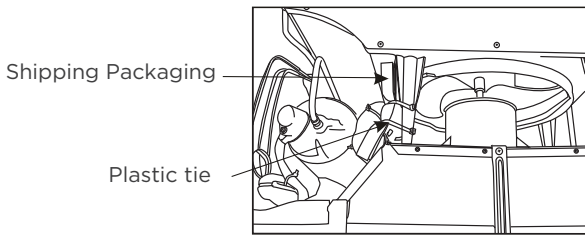

Fig.7
- Your unit may come with internal packaging. This packaging must be removed prior to installing the air conditioner back into the cabinet. (see Fig. 7).